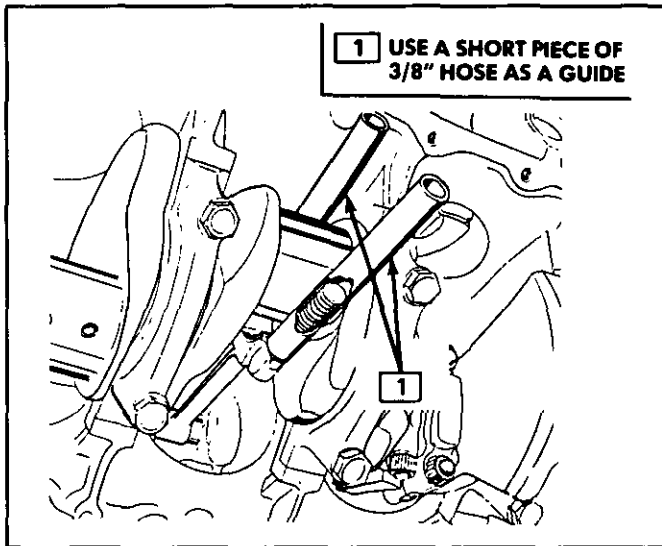

Figure 33 Connecting Rod Protectors (Typical)
NOTICE: Install thread protectors to avoid damage to the crankshaft journal (Figure 33).
3. Connecting rod stud thread protector, if required (Figure 33)